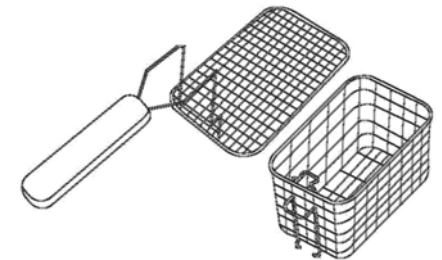

Fig. 2
- Squeezing the handle legs together, insert the ends into the bracket holes in the lid. (Fig. 2)
- Squeeze the handle legs once again and clip the legs into the two (2) hooks at the back of the lid.